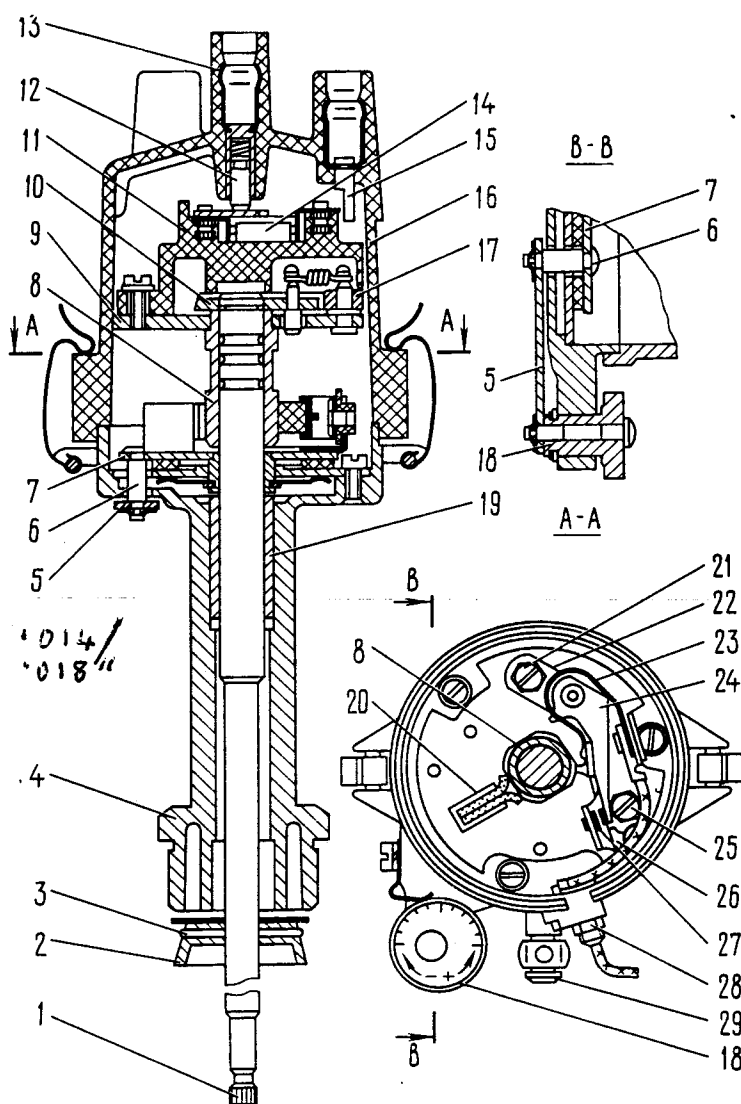

Fig. 7-20. Ignition Distributor P-125B:
- Before 1980 the car engines were fitted with type P-125B ignition distributors (Fig. 7-20).